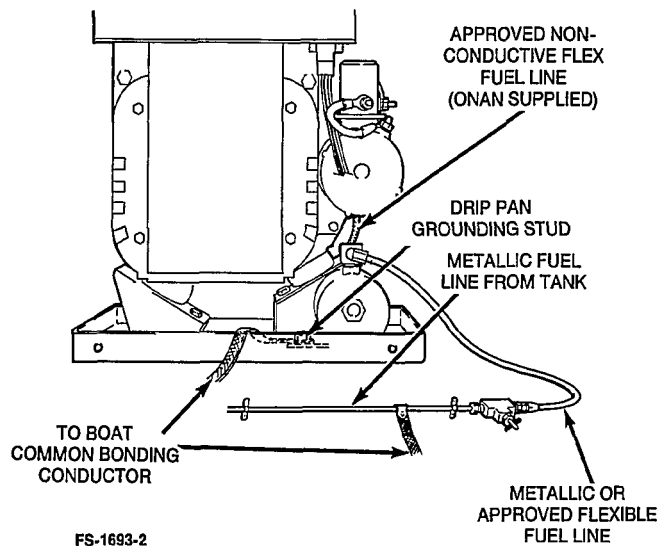

FIGURE 7-3. FUEL LINE BONDING
- Electrically bond a metallic fuel line to the vessel common bonding conductor with a suitable bonding strap. The drip pan must also be bonded to this same conductor as shown in Figure 7-3.